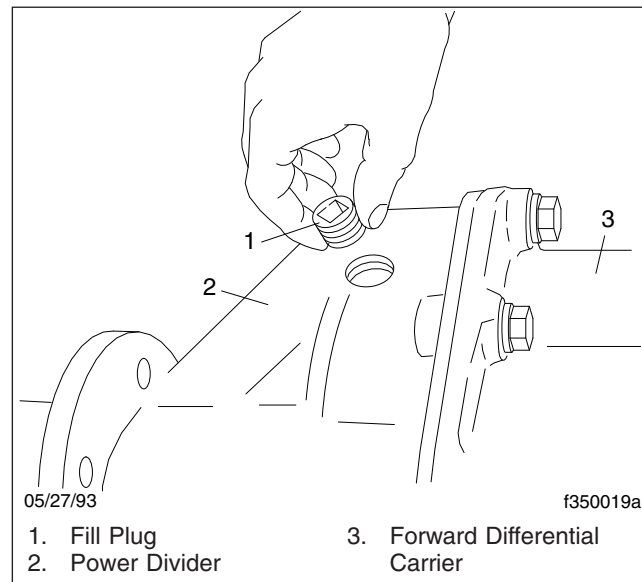

Fig. 5, Power Divider Fill Plug
- 8.3 For forward drive axles, remove the power divider fill plug, located slightly off-set to the right in the top portion of the forward differential carrier. See **Fig. 5**. Add two pints (1 L) of lubricant through this fill hole. Do not use the hole at the *top* of the differential carrier as a fill hole. Install and tighten the fill plug 40 to 60 lbf-ft (54 to 81 N·m).